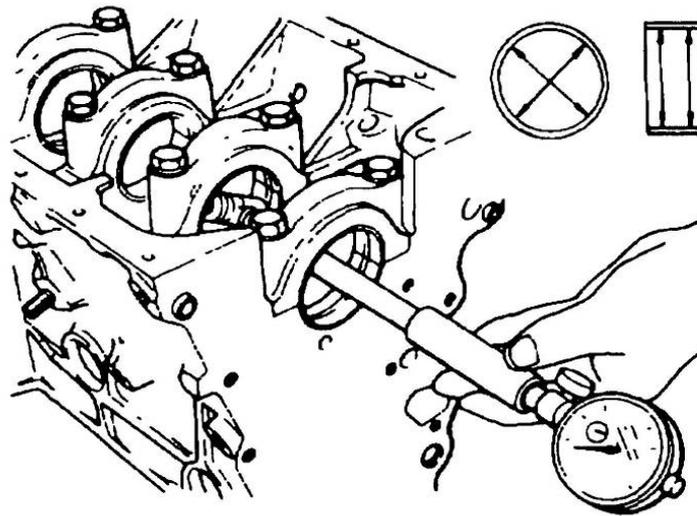

Figure 27 Measuring the Main Bearings
- o. Install the main bearing caps, together with the bearings, onto the engine block, ensuring that they are seated squarely and in their correct location. Torque the retaining bolts to 225 to 245 N.m (166 to 181 lbf.ft). Lubricate the bearing shells with clean engine oil and with an internal micrometer, measure the diameter of the bearings (Figure 27). The nominal diameter is 80.0 mm (3.15 in). Subtract the bearing journal diameter from the diameter of the bearing and check that the clearance falls within the standard dimension of 0.039 to 0.110 mm (0.0015 to 0.0043 in). If the clearance exceeds the limit, replace the crankshaft.